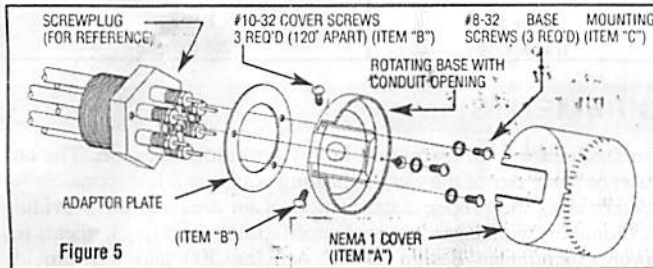

Figure 5
11. Adjustment Instructions for E1 Enclosure only (Figure 5).